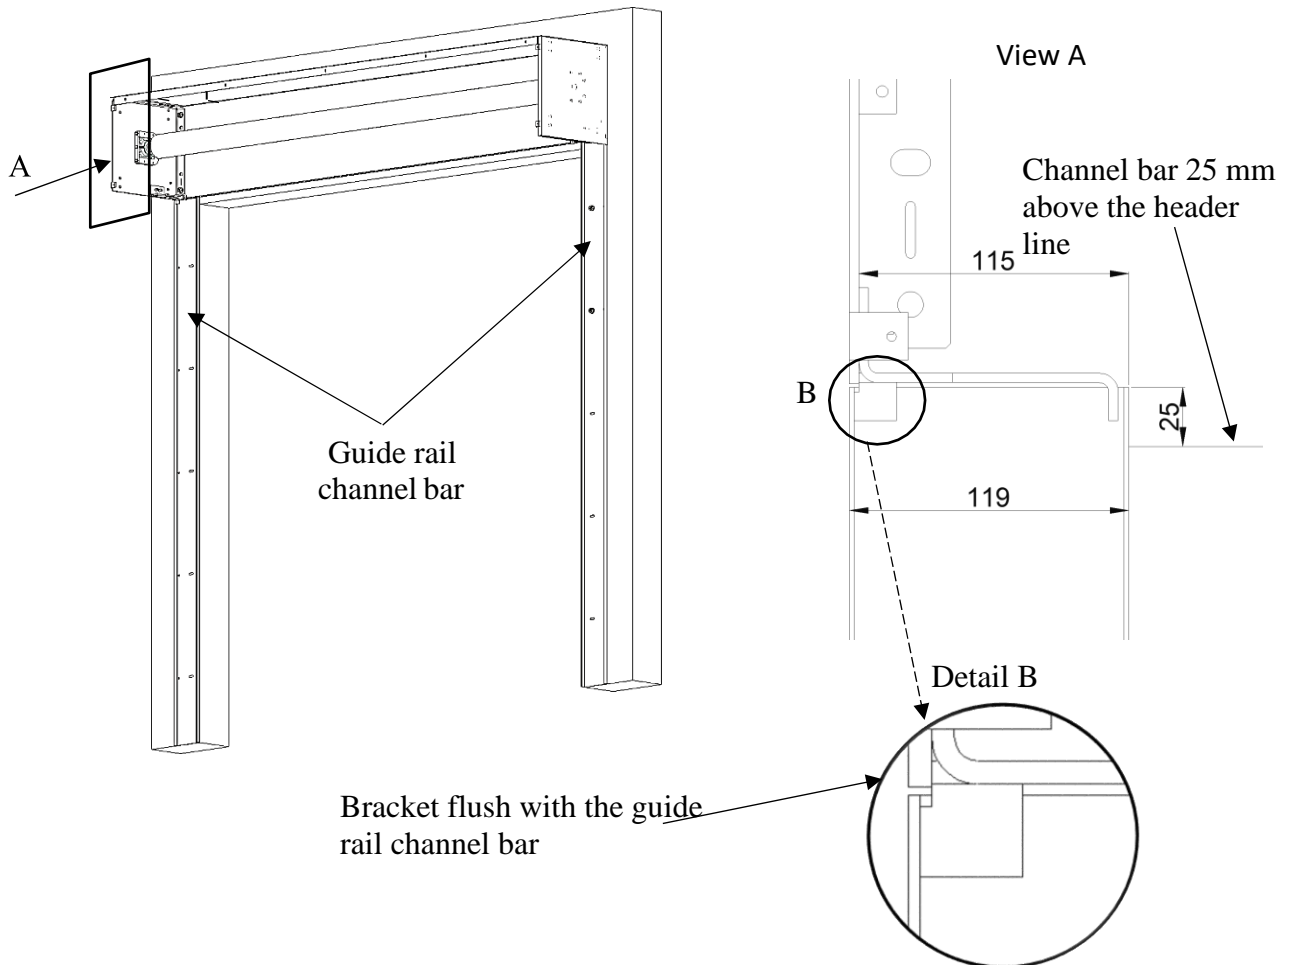

Fig. 9. Installation of the guide rail channel bar with the retaining and the shaft box bracket (shown without the retaining slat)
- 5) Use a level or a beam plumb laser to align the shaft box at the header, over the guide rail channel bars, so that the bottom edge of the bracket is approx. 25 mm above the top edge of the wall opening and flush with the channel bar (Fig. 9, view A). Next, trace out the holes for the bracket anchors.
- 6) Check the alignment of the bracket with the guide rail angle brace (Fig. 9, detail B) and the level of the top fascia cover **and of the winding shaft**.